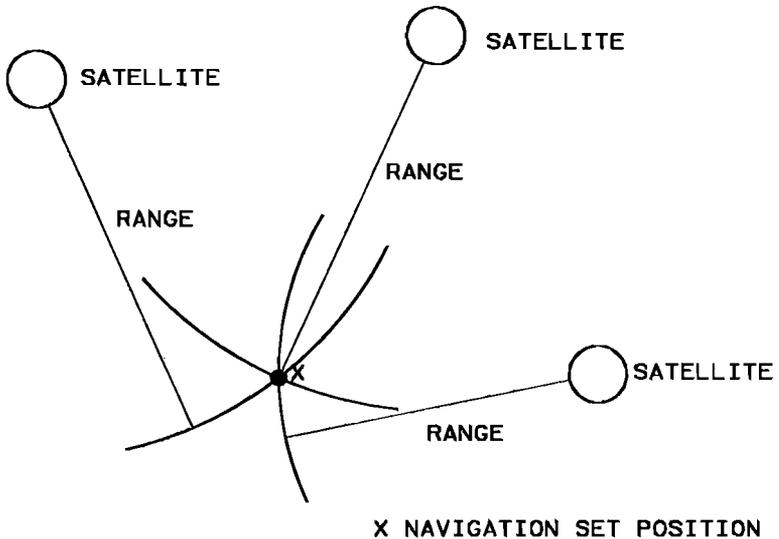

Figure 1-3 Satellite Ranging.
1.1.2.3 Satellite Ranging. GPS nav is based on the principle of satellite ranging. Satellite ranging involves measuring the time it takes the satellite signal to travel from the satellite to the nav set. By multiplying the travel time by the speed of light, the distance between a satellite and the nav set is known. By ranging to three satellites using altitude hold, a 3D position is determined. Without altitude hold, four satellites are required to determine 3D position. See Figure 1-3. The distance measurement to each satellite results in a sphere representing the distance of the nav set to the satellite. The point where the spheres intersect (X) is the position of the nav set. This explanation does not account for any errors. For satellite ranging to accurately provide position data, compensation is provided for the following three sources of error: satellite position and satellite clock error, atmospheric delay of satellite signals and nav set clock error.